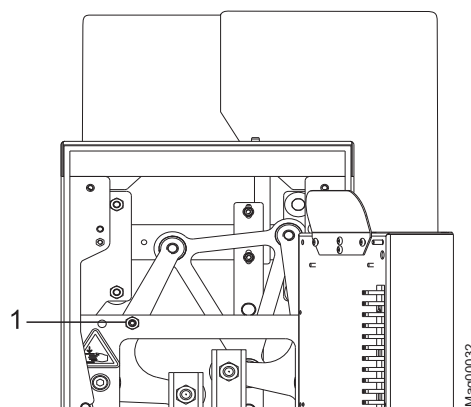

Fig. 14: Drive unit of the left end housing
4. Take the drive unit off its block. Loosen fixing screw. Refer to Page 42, Fig. 14. Make sure that the counter nut is tightened again to prevent unintended turning of the fixing screw.
5. Fix mounting plate. Refer to Page 42, Fig. 14.